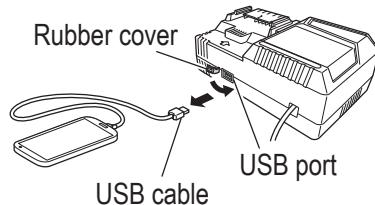

Fig. 24
- Unplug the power cord from the electrical outlet. (**Fig. 24**)